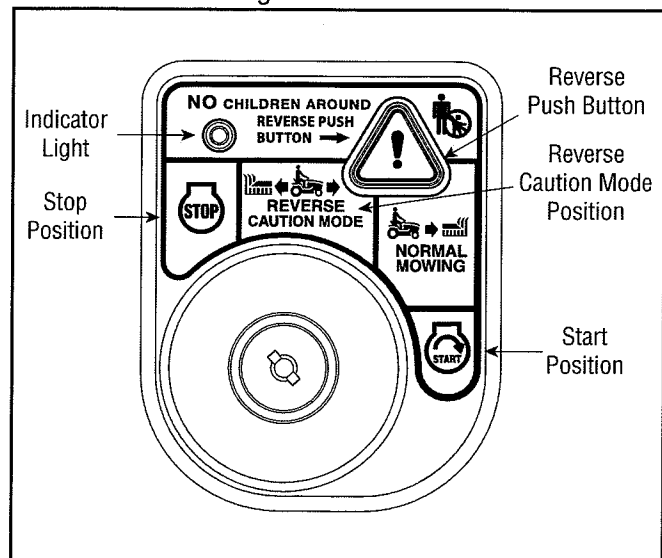

Figure 8
2. Turn the key from the **NORMAL MOWING** (Green) position to the **REVERSE CAUTION MODE** (White) position of the key switch module. See Figure 8.
3. Press the **REVERSE PUSH BUTTON** (Orange, Triangular Button) at the top, right corner of the key switch module. The red indicator light at the top, left corner of the key switch module will be **ON** while activated. See Figure 8.